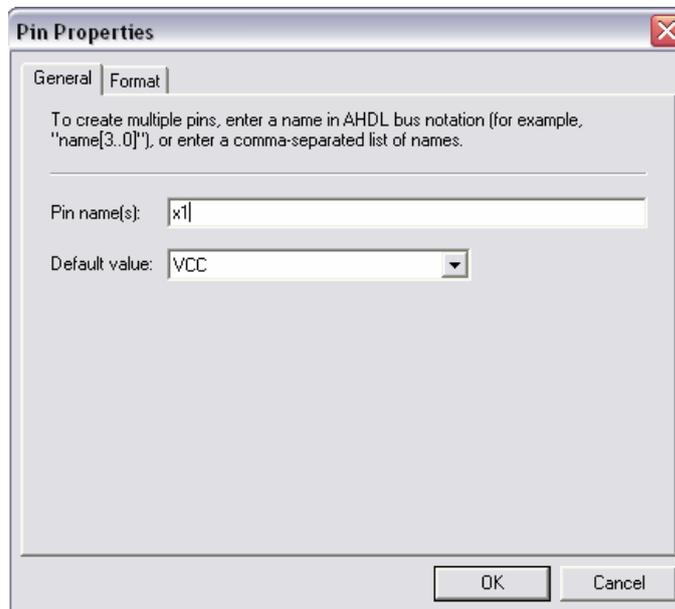

Figure 16. Naming of a pin.
**Assign names** to the input and output symbols as follows. Make sure nothing is selected by clicking on an empty spot in the Graphic Editor window. **Point** to the word `pin_name` on the top input symbol and **double-click** the mouse. The dialog box in Figure 16 will appear. **Type the pin name**, `x1`, and click **OK**. Similarly, assign the name `x2` to the other input and `f` to the output. Alternatively, it is possible to change the name of an element by selecting it first, and then double-clicking on the name and typing a new one directly.